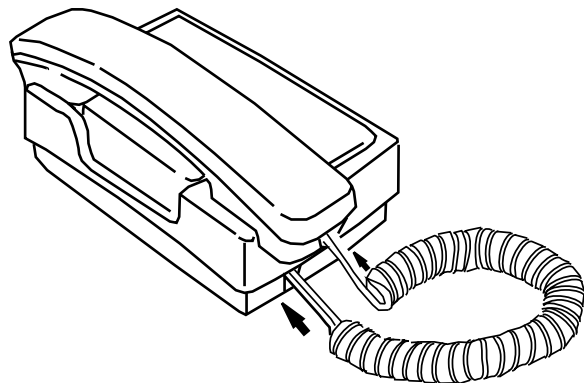

Figure 2.18
(3) After having taken out the telephone set, telephone handset and curled cord from the carton box, connect them as show in Figure 2.18.